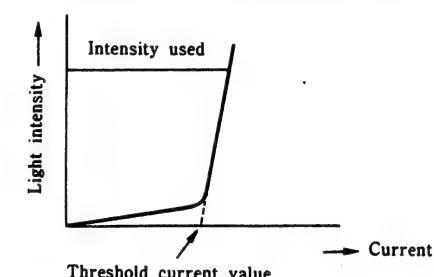

Fig. 12
5. Precautions at time of servicing (Fig. 12)
As illustrated in Fig. 12, the current and light intensity characteristics increase abruptly once the threshold current value is exceeded.